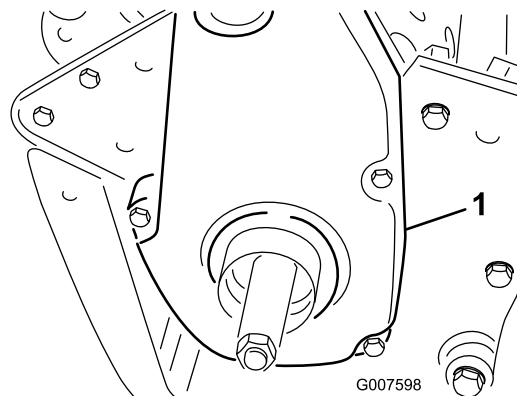

Figure 37
1. Remove the belt cover mounting fasteners and the belt cover to expose the belt (Figure 37).